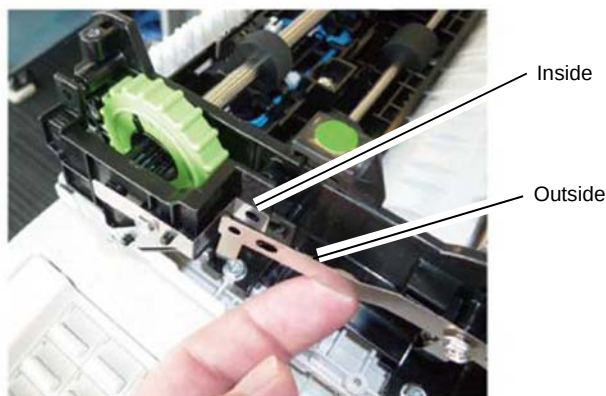

Figure 10 Ground plate installation
2. Install the front bracket and ground roll plate as shown in **Figure 10**.